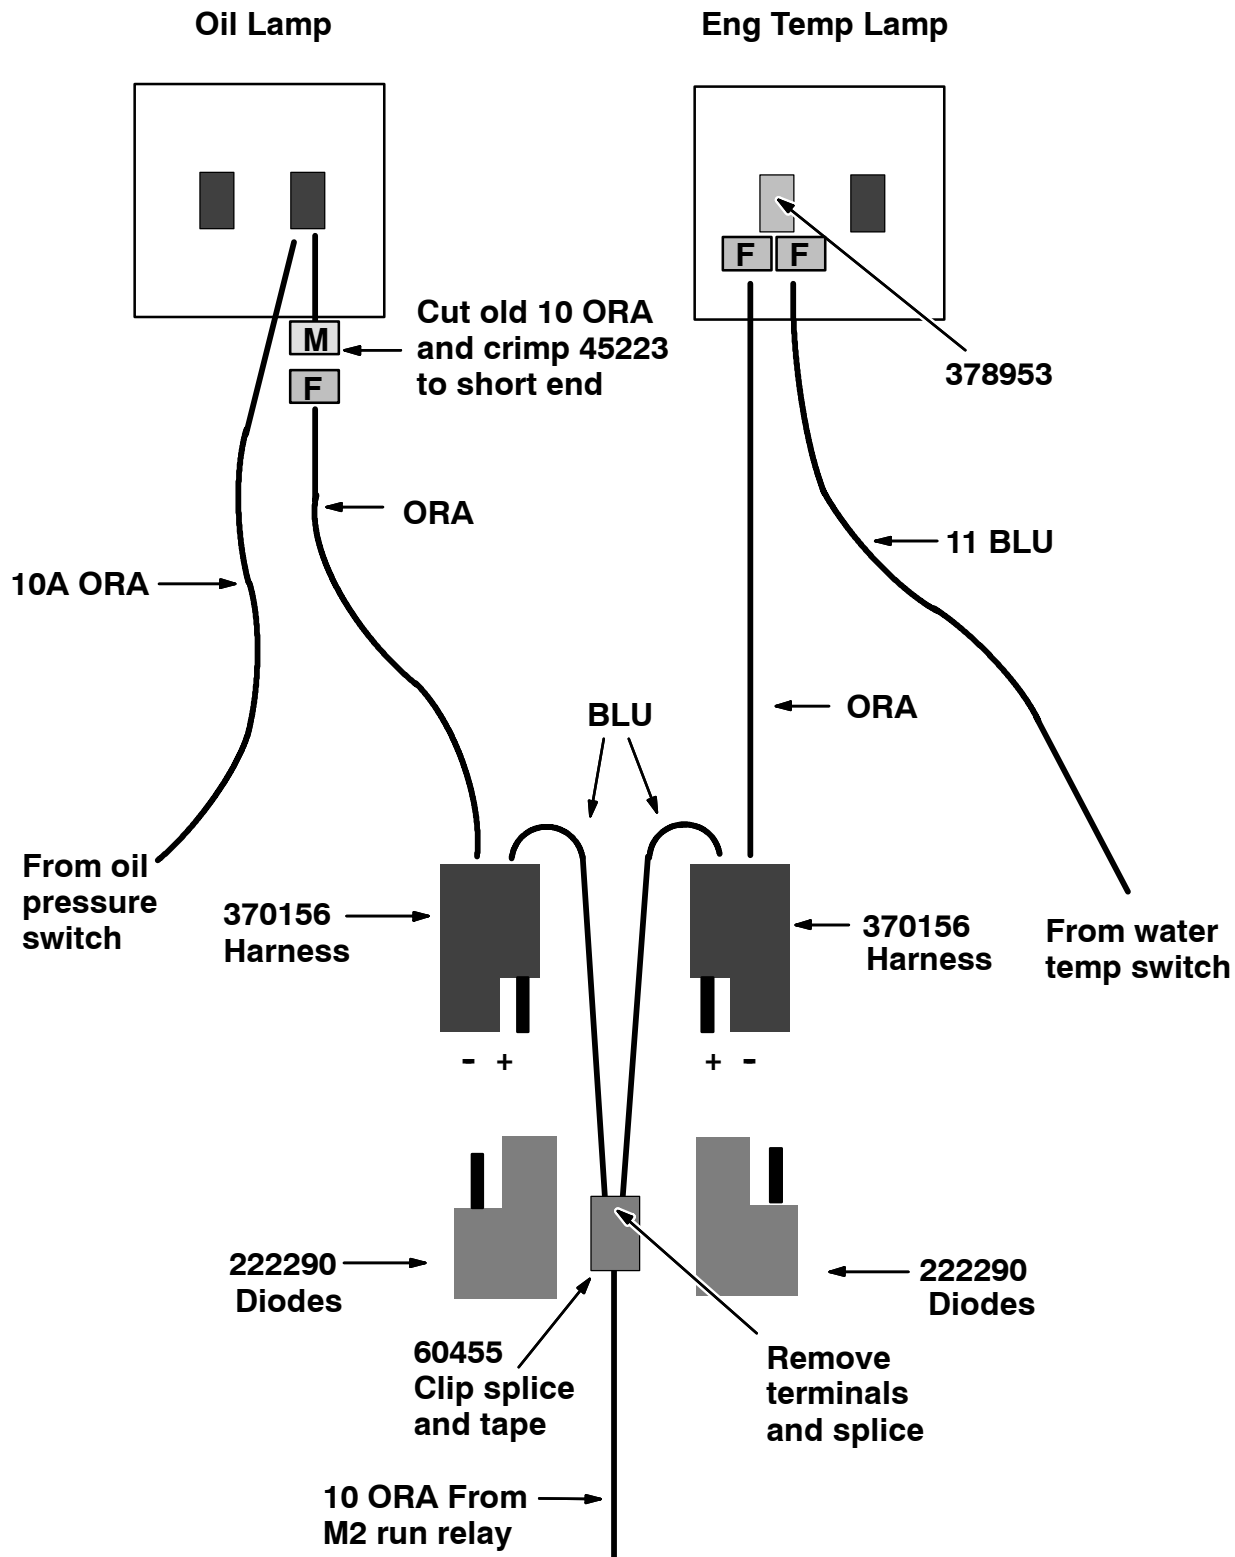

FIG. 1 - NEW DIODE CONNECTOR INSTALLATION
(Refer to FIG. 1 and 2)
2. Locate wire 10 ORA coming from the lamp. Cut the wire 4 to 5 inches from the lamp, and crimp connector 45223 to the short end. Connect wire ORA on harness #370156 with the female connector. (Refer to FIG. 1)
3. Locate the lamp for the high temperature water indicator under the dashboard. Disconnect wire 11 BLU from the lamp. Install connector 378953 to the back of the lamp. Connect wire 11 BLU to 378953. Connect wire ORA on the second harness #370156 with connector #378953. (Refer to FIG. 1)
4. Cut the spades off the two blue wires on the #370156 harnesses. Strip the ends of the blue wires and splice together with the open wire 10 ORA coming from the M2 run relay. Secure the spliced wires with the 60455 clip. Wrap the splice with electrical tape. (Refer to FIG. 1)